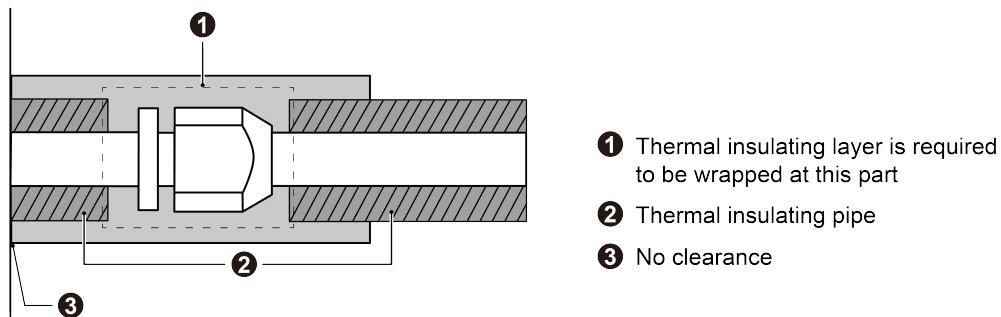

Fig.32
- (1) To avoid condensate or water leakage on connecting pipe, the gas pipe and liquid pipe must be wrapped with thermal insulating material and adhesive pipe for insulation from the air.
- (2) For heat pump unit, liquid pipe should bear 70°C(158°F) or above, and gas pipe should bear 120°C(248°F) or above. For cooling only unit, both liquid pipe and gas pipe should bear 70°C(158°F) or above. Example: Polyethylene foam can bear 120°C(248°F) above and foaming polyethylene can bear 100°C(212°F) above.
- (3) Joints at indoor and outdoor units should be wrapped with insulating material and leave no clearance between pipe and wall. See Fig.32.